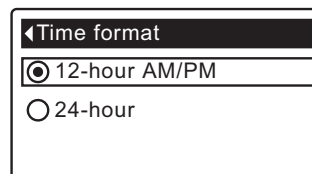

FIG. 48
1. From any of the rolling status screens, press the SELECT (O) button to display the **Main menu**.
3. Press the SELECT (O) button to display the User preferences menu.
5. Press the SELECT (O) button to display the Time format menu (See Figure 48).
6. If the desired time format already has a black dot next to it (See Figure 48), go to Step 7. Otherwise, press the DOWN (▼) or UP (▲) buttons to scroll to the other time format, then press SELECT (O) to choose it.
7. Press the SELECT (O) button. The display will go back to the User preferences menu.